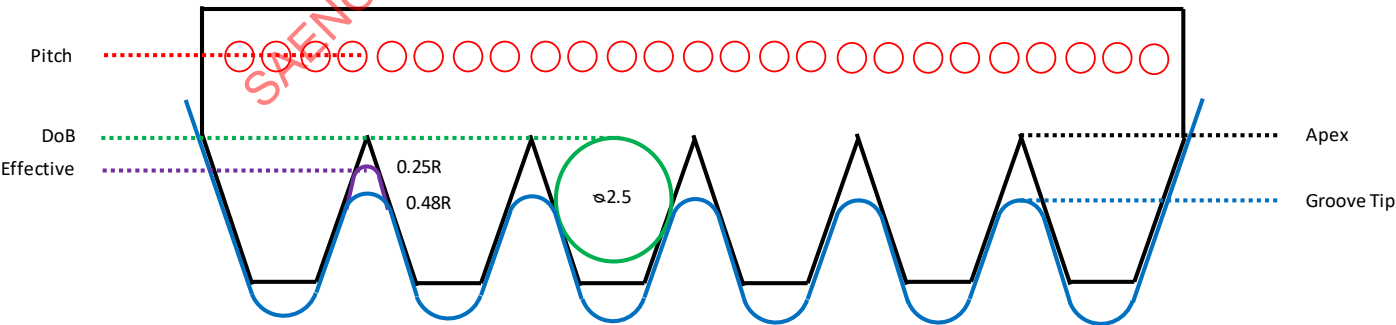

Figure 1 - Belt cutaway
Although several V-ribbed cross sections are available, this document shall be confined to "PK" (K) section belts which are used in automotive applications, including trucks at least up to Class 3. Belts shall conform to Figure 1.
Effective diameter is based on the tip diameter for a 40 degree pulley with 0.25R tip radius, while this standard utilizes a 0.48R tip radius for the pulley. This can be seen in Figure 1: